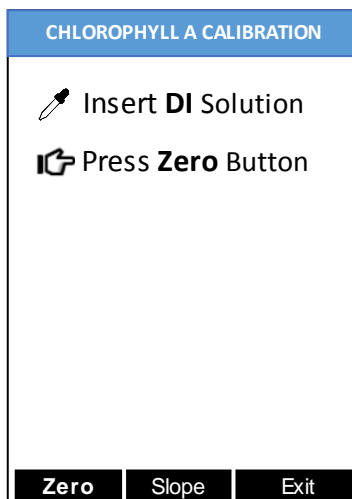

Figure 5
5. Figure 5, the first screen of the CHLOROPHYLL-A calibration appears.